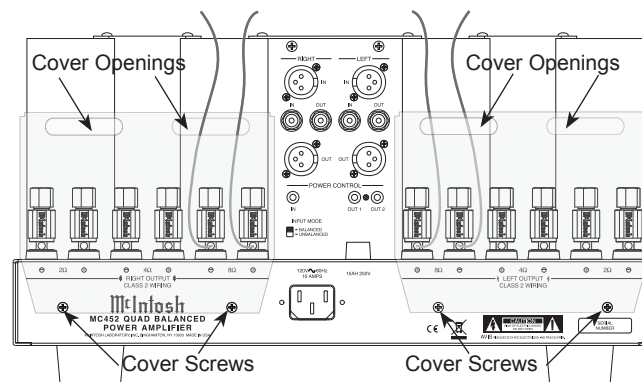

Figure 6 (Outside USA and Canada)
- Locate the Terminal Connections Covers from the inside of the MC452 shipping carton. Insert the just prepared Loudspeaker hookup cables thru the cover openings, one cover for each channel. Refer to figure 6.
Note: The illustration in figure 6 is connections for 8Ω (ohms) Loudspeakers.
- Attach the Terminal Connections Covers to the MC452 Rear Panel with the previously removed Screws. Refer to figure 6.